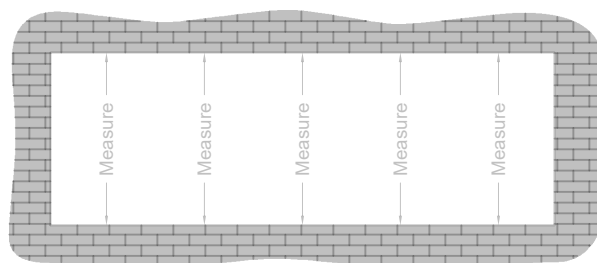

Fig. 25.3
- D. Measure the height of the opening (Rough Opening) at several points along the entire width of the opening. Select the smallest of these dimensions and subtract 1"(25.4mm) to allow a minimum of 1/2"(12.7mm) at sill and head for shim and caulking. **SEE Fig. 25.3.**